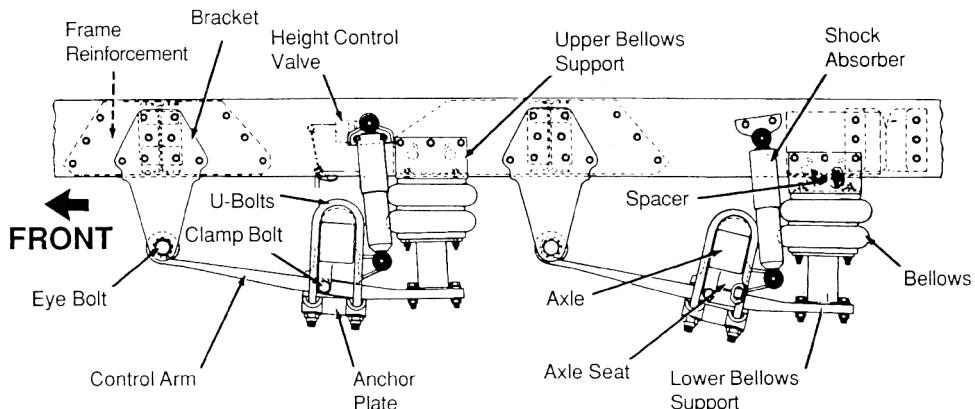

**Figure 2.2**
- Spring hangers that allow movement of the axle from proper position. (See Figure 2.2 on next page.)